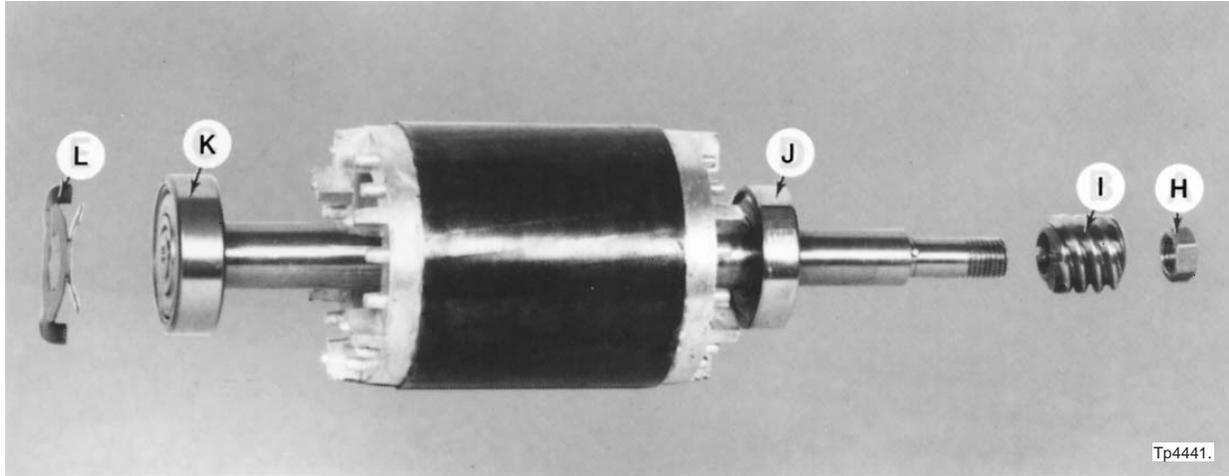

Figure 3.35 - Drive Motor Components
16. Remove the motor armature, Figure 3.35 .
1. If required, press replacement bearings “J” and “K”, Figure 3.35, onto the armature shaft.